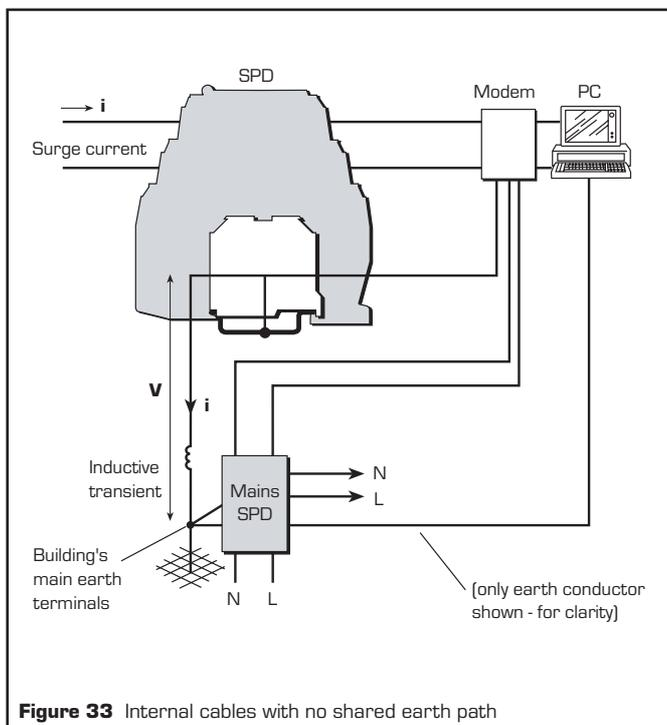

Figure 33 Internal cables with no shared earth path
An example of an internal cable with no shared earth path, figure 33, could be a modem serving a personal computer (PC). At least some of the surge voltage developed across the earth cable may appear on the link to the PC, so there is still the possibility of damage to the PC. If the surge earth path cannot be shortened in practice, the modem with its SPD should be moved closer to the PC and all earthed together.